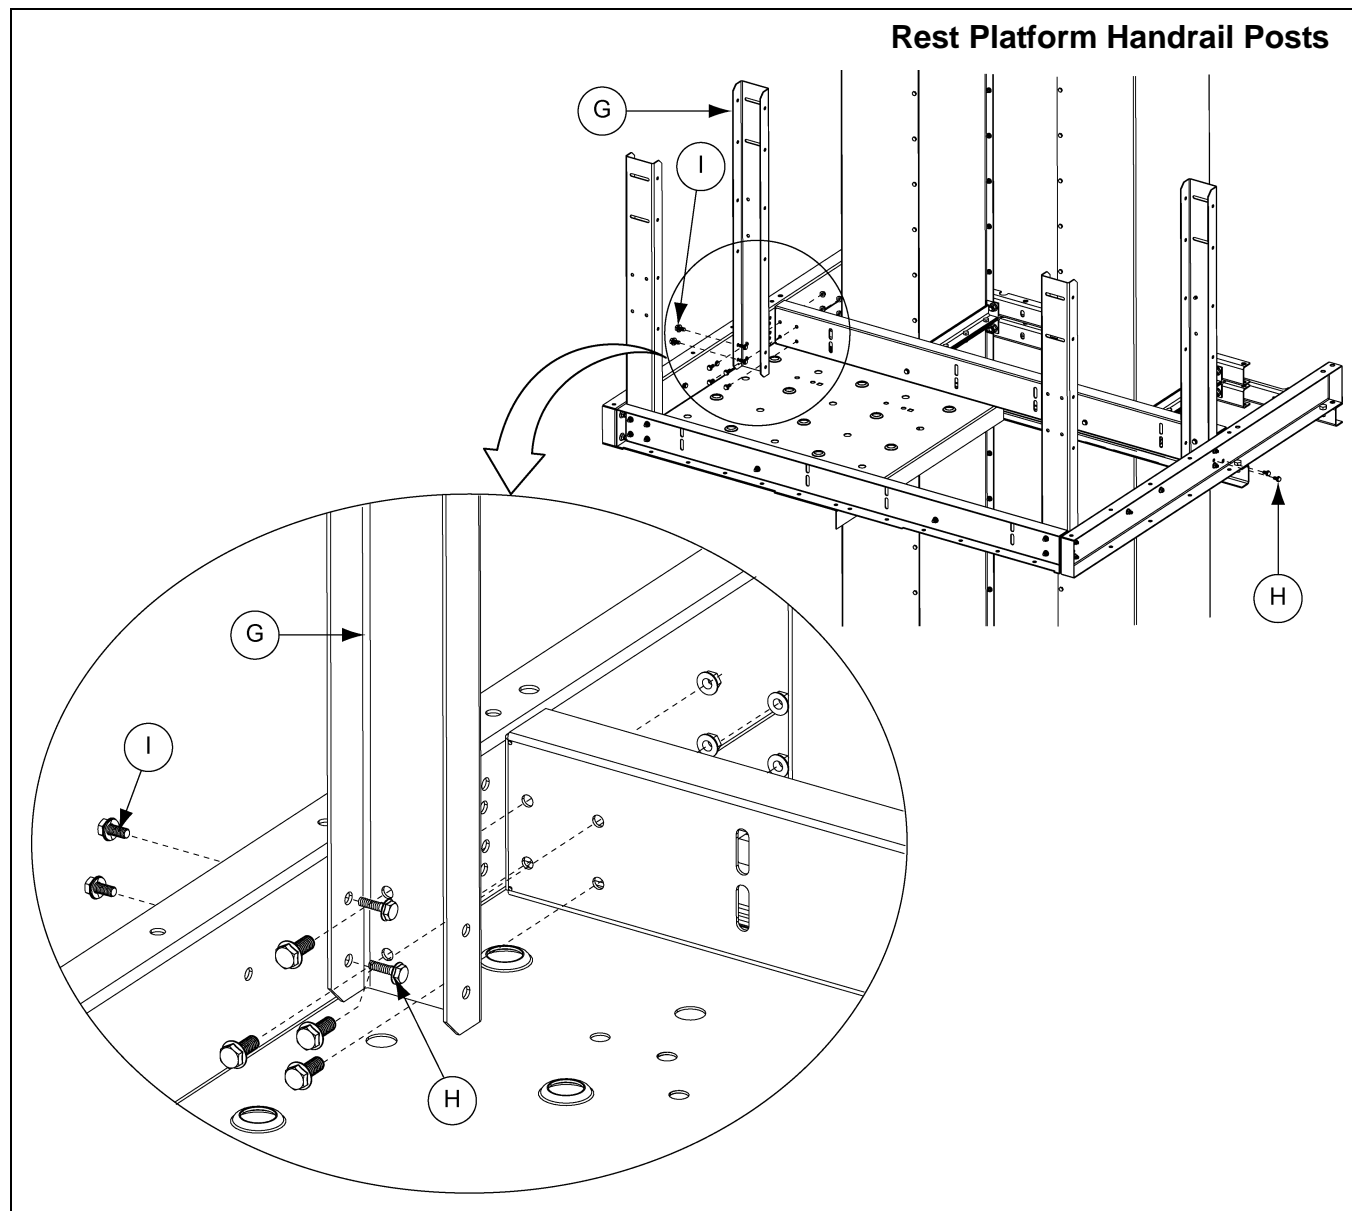

Figure 7I
3. Install the handrail platform posts to the rest platform mounting channels and rest platform channels using six (6) 5/16" x 3/4" flanged hex bolts for each post, four (4) bolt to the front and two (2) on the side. (See Figure 7I.)